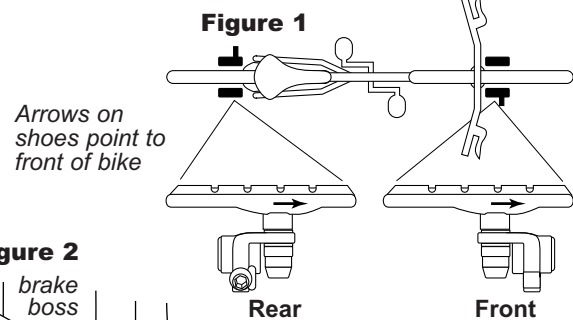

Figure 2
3. Slide one of the brake arms onto a lightly greased brake boss. Be sure that the pin on the back of the arm is seated in the spring hole on the brake boss (see figure 2). If there is more than one hole, choose the hole nearest the center of the brake boss.
4. Thread the brake fixing bolt (with washer) into the brake boss, and tighten the bolt to 43–61 inch/lbs of torque (see figure 2).